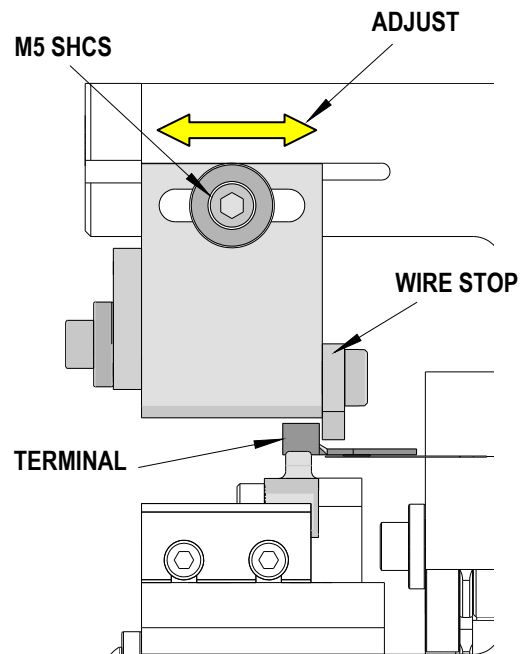

Figure 2-12
3. To adjust the wire stop, loosen the M5 SHCS on the side of the stripper. Move the wire stop in or out until it is near the end of the terminal barrel. See Figure 2-12. Tighten the M5 SHCS when adjustment is complete.